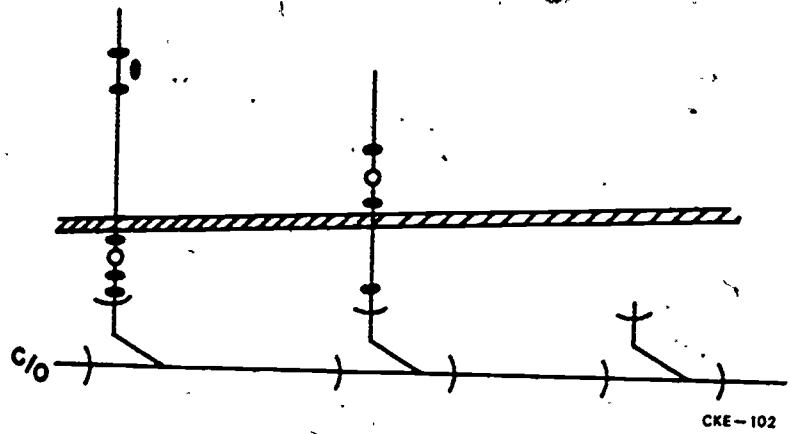

Figure 9. Lavatory Waste Piping
5. Make a list of the materials required for the rough-in of the lavatory waste piping in your booth. Use figure 9.